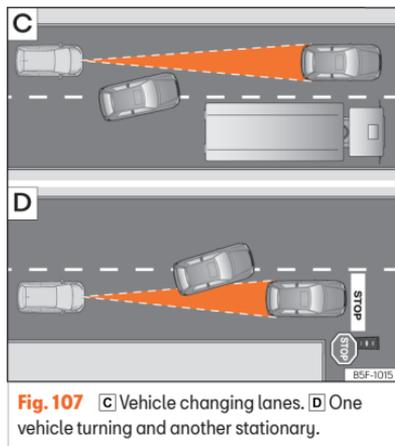

Fig. 107 **C** Vehicle changing lanes. **D** One vehicle turning and another stationary.
- Vehicles that move into your lane, a short distance from your vehicle >>> Fig. 107 **C**.
The ACC does not react to stationary vehicles. If, for example, a vehicle detected by the ACC turns or moves over and there is a stationary vehicle in front of it, the ACC will not react to the second vehicle >>> Fig. 107 D.